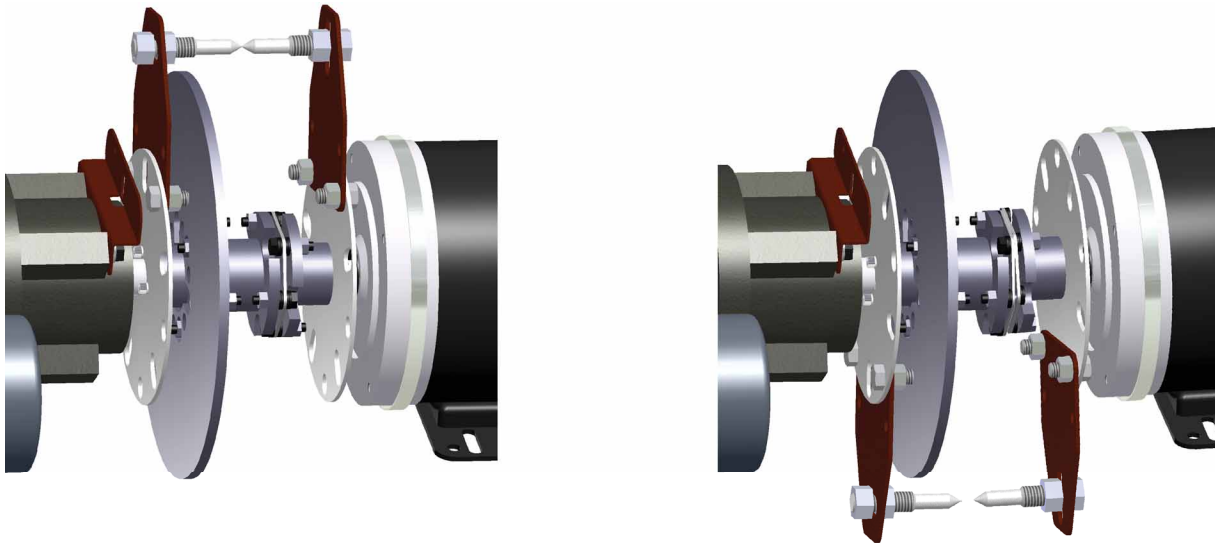

Figure 2-60. Angular misalignment.
- 47. (Vertical plane angular misalignment) Rotate the shaft between the 0° and 180° positions. If the points move closer or farther apart (ignore vertical travel for now), this means there is angular misalignment (Figure 2-60). Place or remove shims under the front or back of the generator to reduce angular displacement by about half of the maximum separation distance.